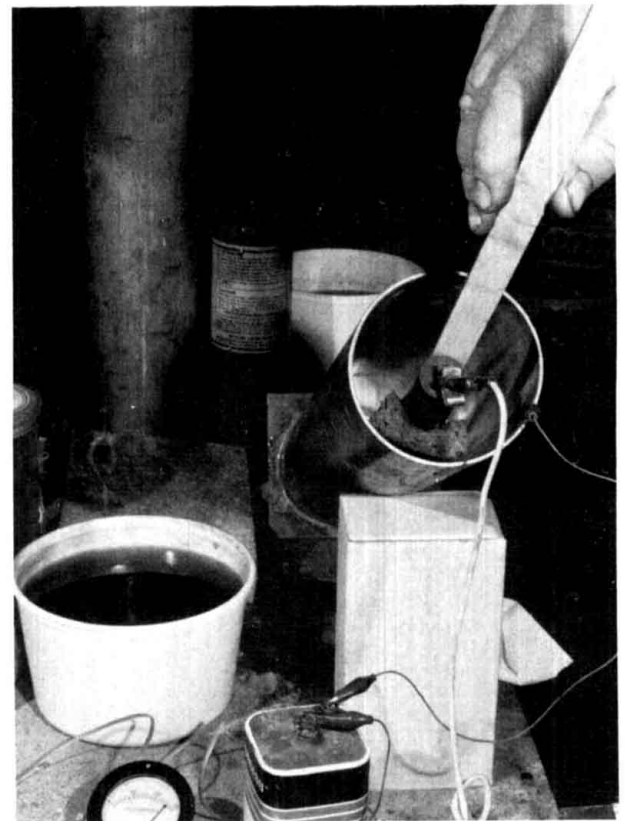

fig. 4. Silver plating the inside of the main tubing of a cavity.
7. Should you want to plate a large, long tube, simply put the sponge on a long stick and slide it inside the tube. (This is simpler and safer than filling the tube with cyanide solution and then inserting a long silver anode into the tube [fig. 4]).